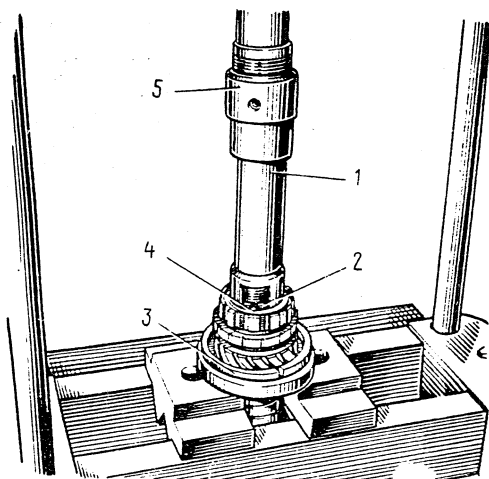

Fig. 3-28. Installing the Main Shaft Locking Ring:
- install the main shaft with tool 41.7816-4069 on a press (Fig. 3-28), put supporting half-rings 3 under the 3rd speed gear and, pressing the spring washer with the tool, remove locking ring 2; then remove spring washer 4, the hub of the 3rd and 4th speed sliding shift sleeve and the 3rd speed gear.